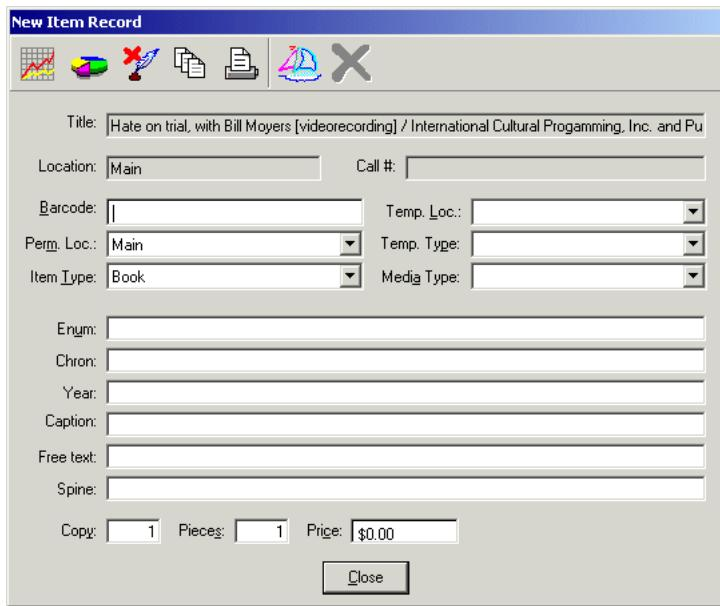

Figure 10-4. New Item Record dialog box
- If the **Automatically create at Receive** check box is not selected on the **Item Creation** tab of your Session Workflows, an item record is not automatically created. However, after a line item copy has been received, you can select the copy from the hierarchy and click the **Item** button or press **Alt + I** on your keyboard to create an item record. The **New Item Record** dialog box opens (see Figure 10-4).